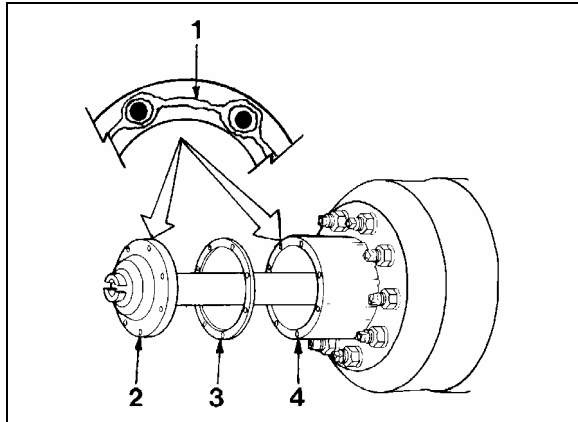

FIGURE 10: AXLE SHAFT INSTALLATION
3. Install jacks under tag axle jacking points to support the axle weight (refer to figure 10).